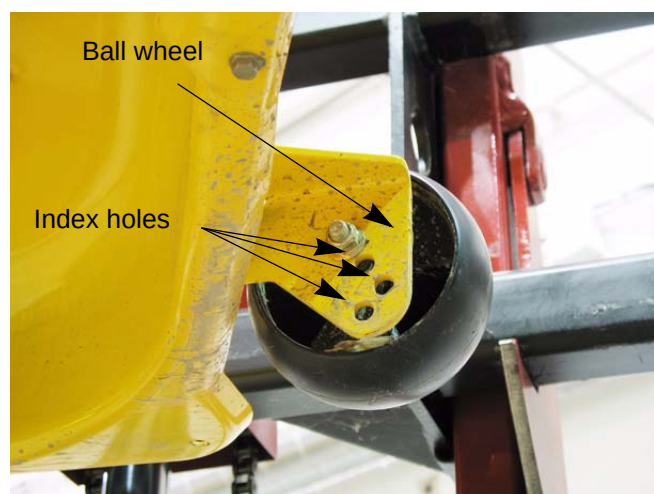

Figure 8.13
4. Reposition the ball wheel to align with the one of four index holes that places the wheel 1/4" to 1/2" above the ground. See Figure 8.13.